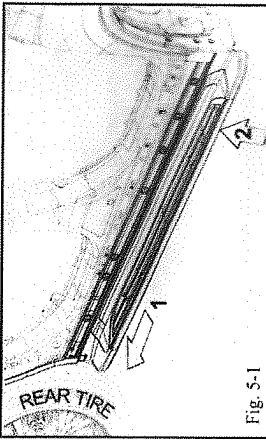

Fig. 5-1
- (a) Insert the rear of the running board into the fender molding and rotate the front up and into position (Fig. 5-1).